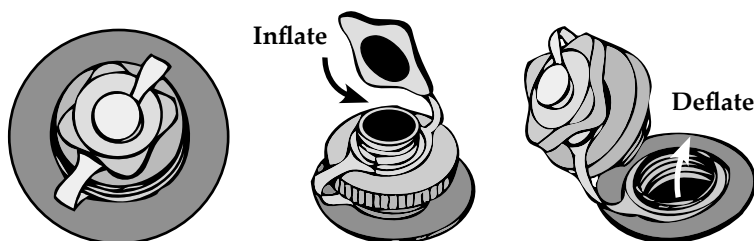

Figure 2. Inflate/Deflate Boston Valve
3. Locate chambers 3 and 4 "floor." Make sure valve body is screwed in tightly. Remove small cap (*See Figure 2*) and use appropriate pump nozzle. Inflate chambers until firm (1.0 psi **ONLY**). **Do not over inflate!**
3. Unscrew valve body to chamber 3 and 4 (*See Figure 2*).